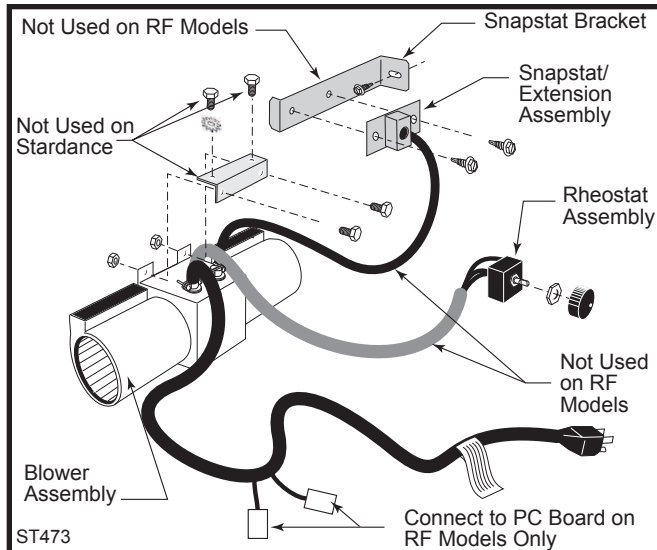

Fig. 12 Fan kit components.
1. The fan kit includes a Blower Assembly and a Rheostat Assembly, connected by a cable. (Fig. 12) The Blower Assembly mounts to the bottom rear of the stove, and the Rheostat mounts to the valve bracket to the left of the valve. The assembly includes a 'snapstat' which automatically turns the fan On (or Off) above (or below) approximately 109°. The Rheostat also provides a range of fan speed settings from Off (which overrides the snapstat function) to High. Unpack and inspect the Blower assembly. Confirm the fan spins freely.